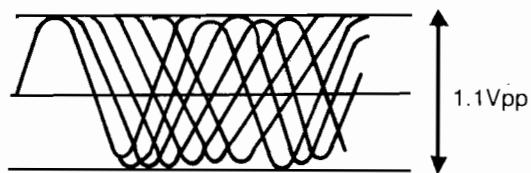

Figure 1
2) Adjusting procedure (Figure 1)
- Connect the oscilloscope to TP5 (RF) and TP5 (GND)
- Adjust VR101 so that oscilloscope indicate the figure shown in Figure 1.